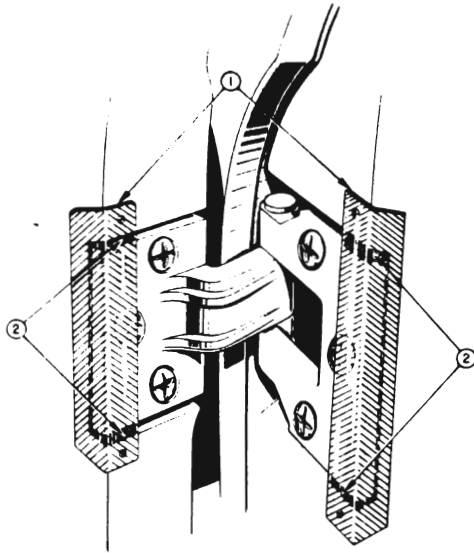

Fig. 1-70. Front Door Hinge
1. As shown in Fig. 1-70, brush sealing compound FS 638 on all surfaces of hinge cover plate where contacting the surfaces of the hinge and pillar. Note arrow "1."